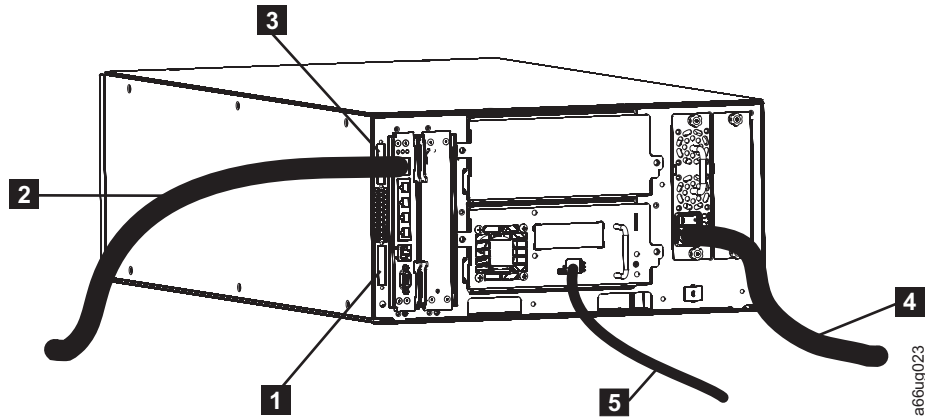

Figure 4-35. Cabling of a 5U library with fibre drives
1. Install the upper module communication terminator (**3** in Figure 4-35).
2. Install the lower module communication terminator (**1** in Figure 4-35).
3. Connect one end of the customer-supplied Ethernet cable (**2** in Figure 4-35) in the Library Control Blade Ethernet port, then connect the other end of the cable to your network.
4. Connect one end of the drive-to-host cable (**5** in Figure 4-35) to the library, then connect the other end of the cable to your network. Repeat this for every drive in your library.
5. Connect one end of the power cord (**4** in Figure 4-35) in the receptacle in a power supply in your library, then connect the other end of the cord to your power source. Repeat this for every power supply in your library.